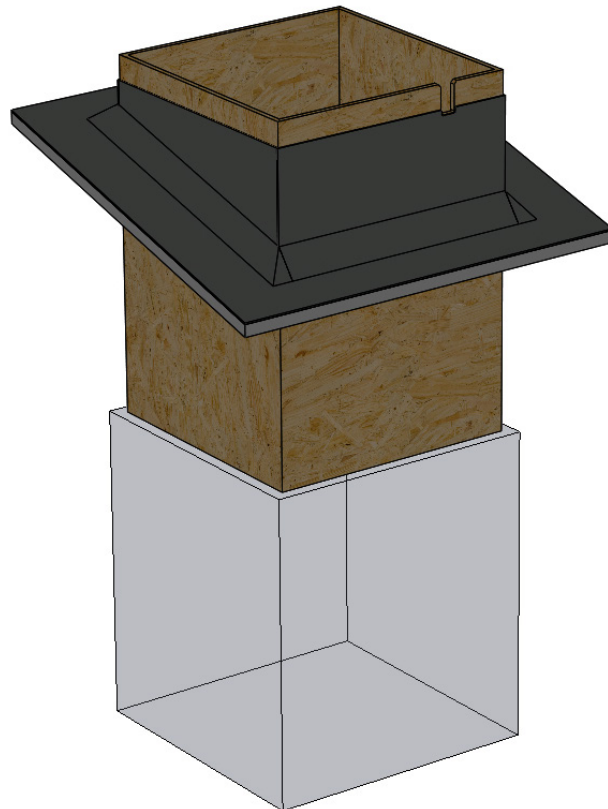

Figure 33 – Upstand dimension details.
2. This will create an internal opening dimension of 792 x 792mm – *see figure 33.*